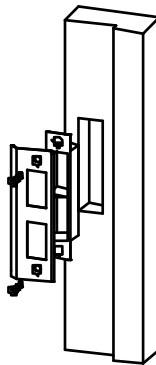

Figure 18
18) Drill holes and dig a slot at installed lock's location, install door catch board and door catch box on it then tighten the cross recess wood screws. Show as Figure 18.